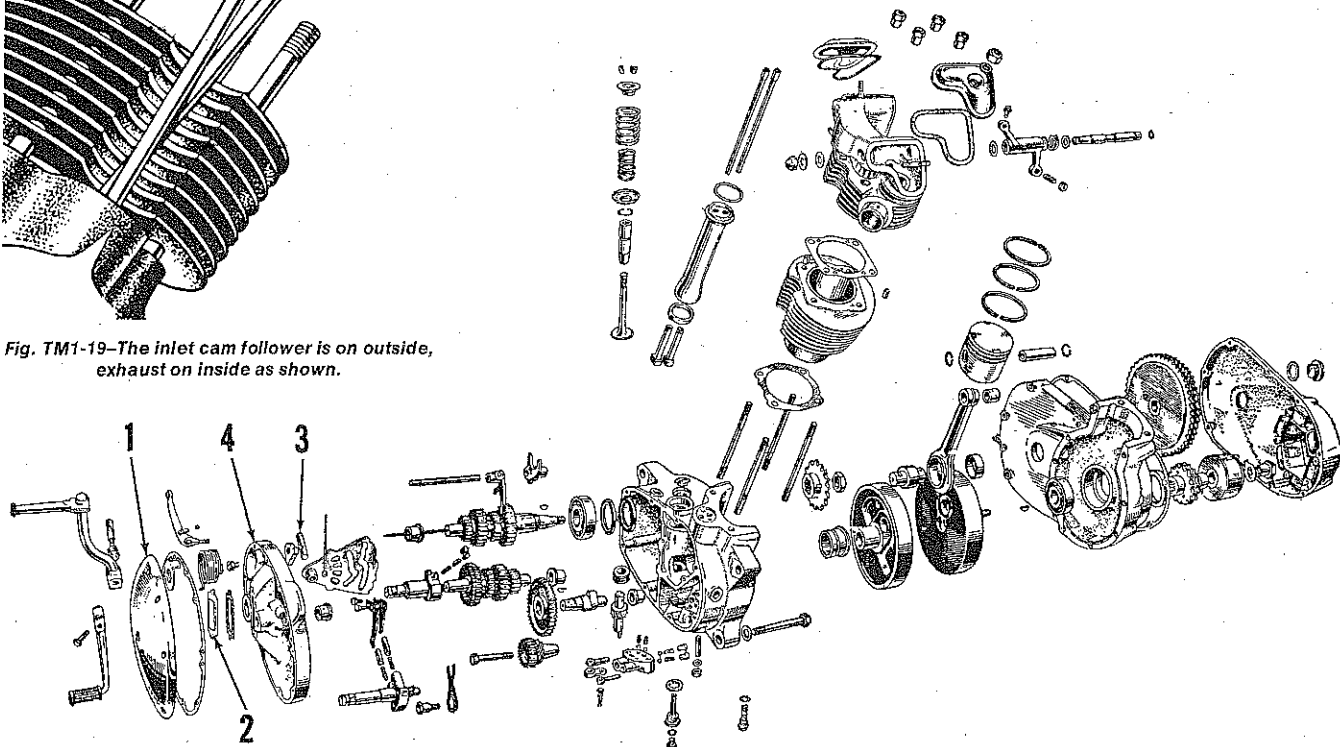

Fig. TM1-22—Exploded view of the engine assembly used on early models. Late models are similar.
To remove the camshaft, remove the ignition breaker point stator plate, ignition cam assembly and the right side outer cover, then remove the kick starter spring retainer and return spring. Remove the small plate (2—Fig. TM1-22) and withdraw shaft (3). Remove the attaching screws and withdraw the inner cover (4).
**GEAR BOX.** The transmission gears and shafts can be disassembled after the engine is removed and the generator rotor, crankshaft primary drive sprocket, clutch assembly and primary drive chain are removed. Remove the ignition breaker point base plate, ignition cam assembly and the right side outer cover. Remove the kick starter spring retainer and spring. Remove the small plate (2—Fig. TM1-22) and withdraw shaft (3). The inner cover (4) can then be removed. Refer to Fig. TM1-25 for exploded view of transmission gears and shafts.